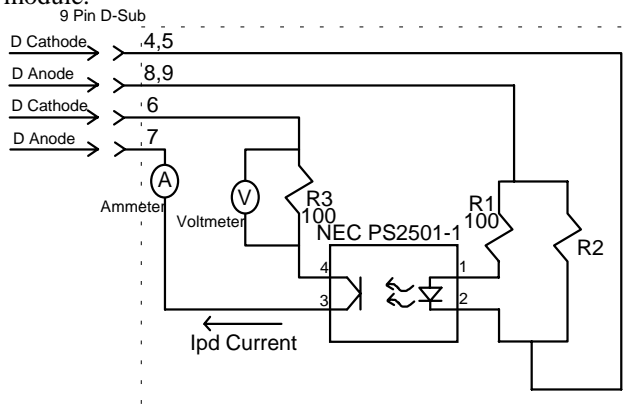

Figure 34 - I_{PD} Calibration Circuit
- With the laser output off, connect a calibrated ammeter to the PD Anode output of the module and connect the circuit of Figure 34 to the laser and PD outputs.
If a calibrated ammeter (with 0.1 μA resolution) is not available, place a calibrated DMM (with 0.1 mV resolution) to measure the voltage across the resistor, R3, as shown in Figure 34. Calculate the current in the following steps by using Ohm's Law:
- a. With the laser output off, connect a calibrated ammeter to the photodiode anode output of the module and connect the circuit of Figure 34 to the laser and photodiode outputs.
If a calibrated ammeter (with 0.1 μA resolution) is not available, place a calibrated DMM (with 0.1 mV resolution) to measure the voltage across the resistor, $R3$, as shown in Figure 34. Calculate the current in the following steps by using Ohm's Law: